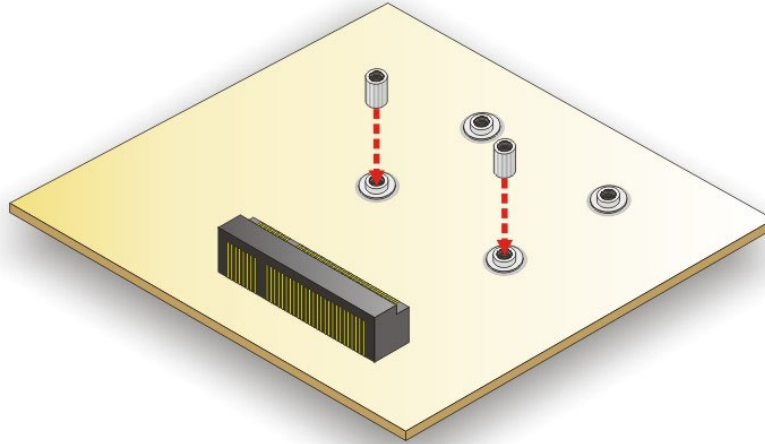

Figure 3-19: Installing the Standoffs
Step 5: Install the previously removed standoffs to the screw holes for the WLAN module (**Figure 3-19**).